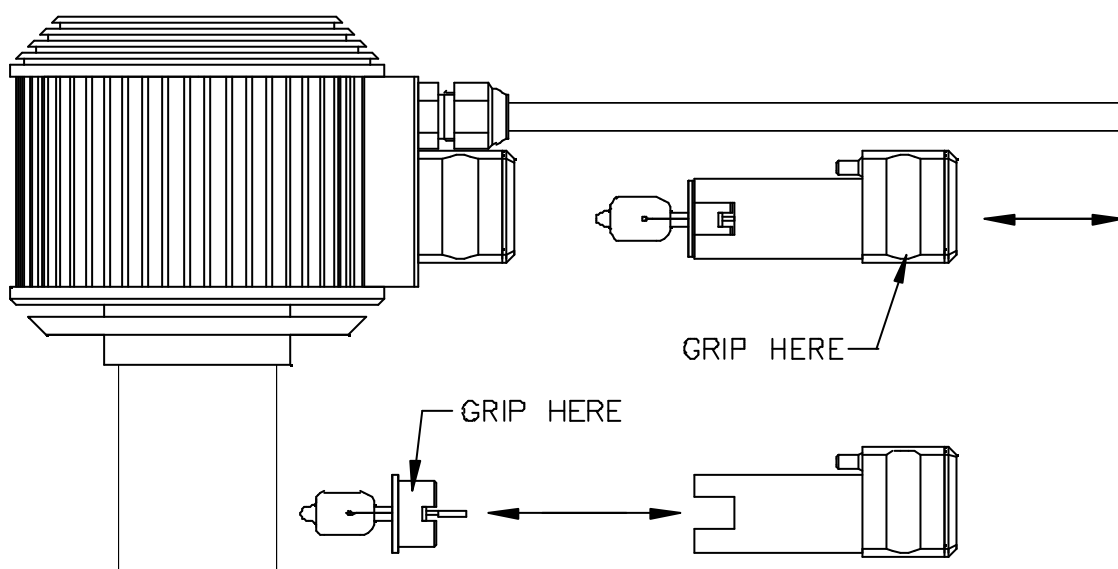

Figure 14 Changing the lamp
2. To replace the lamp, first grip the gold rectangular block located beneath the cable gland at the back of the lamphouse. Pull the block outwards from the long rectangular block to reveal the lamp assembly. Refer to figure 14.
3. Grip the lamp holder at the sides where the rectangular cutout is located, and pull the lamp out. Do not attempt to pull the lamp out by gripping the glass capsule. Refer to figure 14.